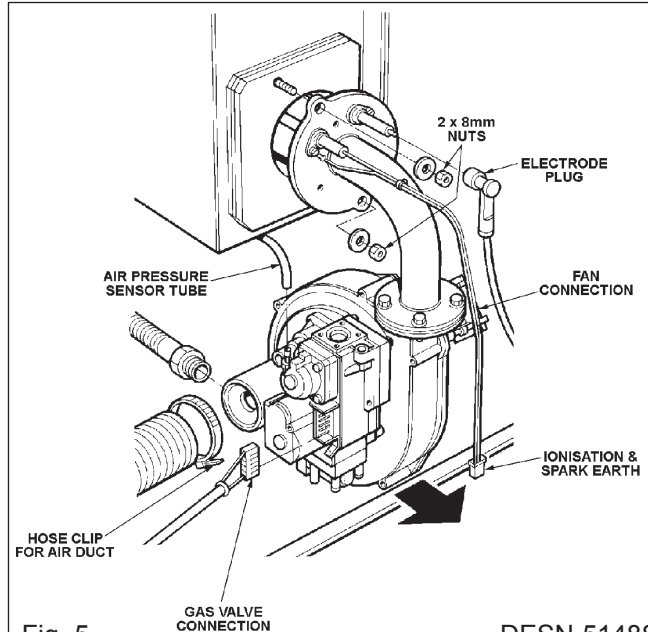

Fig. 5
3. All of the items in Fig. 5 need to be disconnected before the burner assembly can be removed.